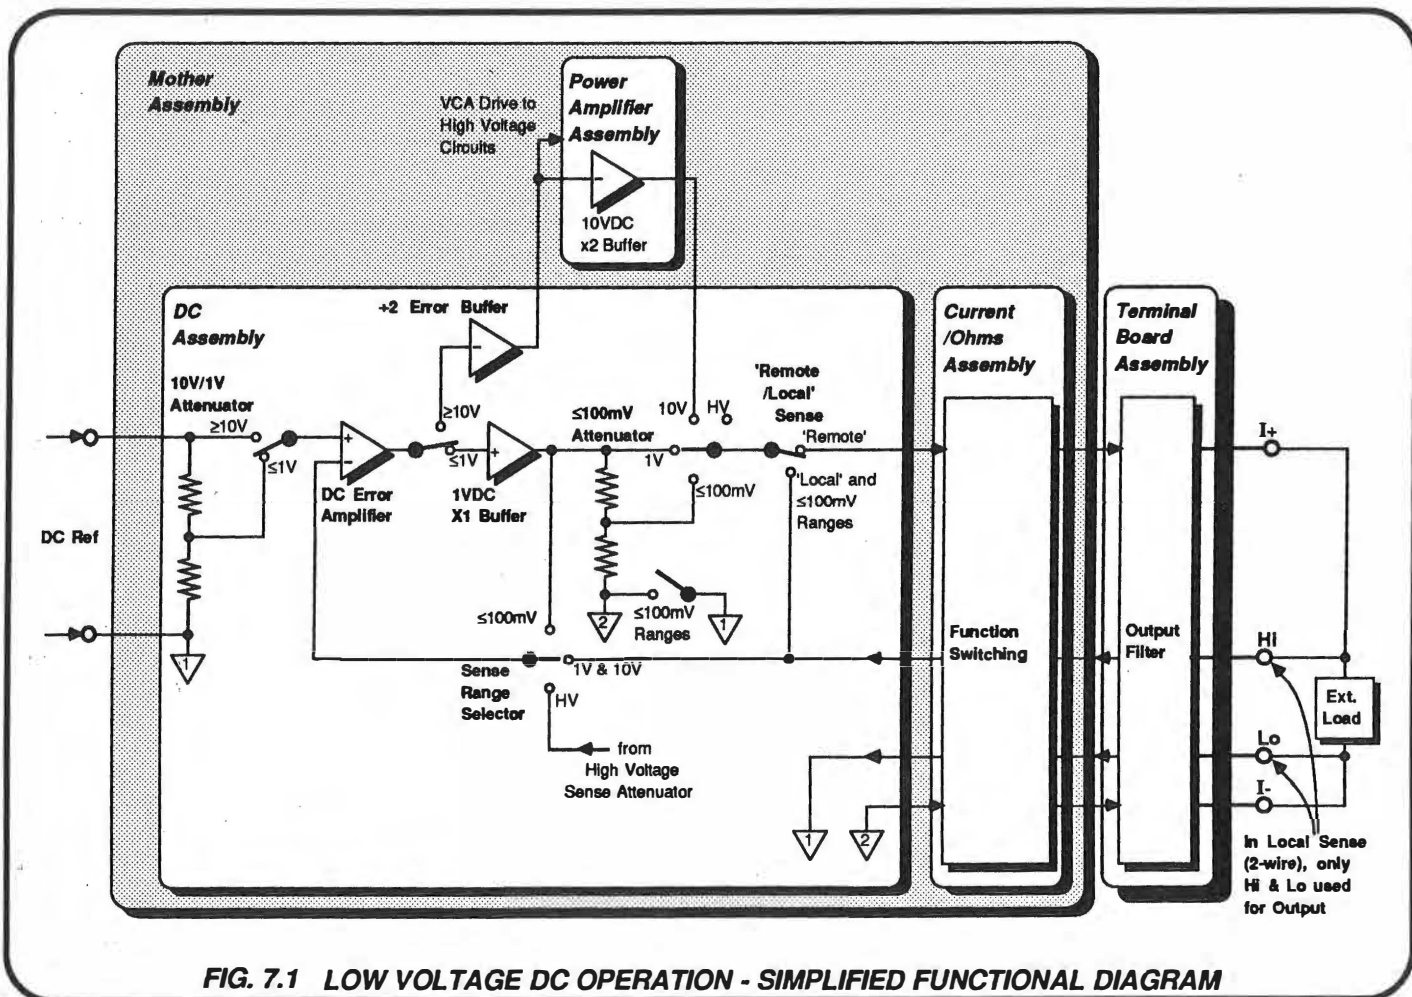

FIG. 7.1 LOW VOLTAGE DC OPERATION - SIMPLIFIED FUNCTIONAL DIAGRAM
7.2 LOW VOLTAGE LOOPS (Fig. 7.1)
The low voltage loop and routing are illustrated in the simplified diagram of Fig. 7.1. Switching contacts are shown in positions set for the 1V Range.
The filtered sense voltage is fed into the Mother assembly between J26-2 (Hi) and J26-5 (Lo). (No external sensing is provided for the millivolt ranges. See paras 7.3.6.3, 7.3.8.2, 7.3.9.2 and Fig. 7.1 for the simplified local sensing arrangement.)